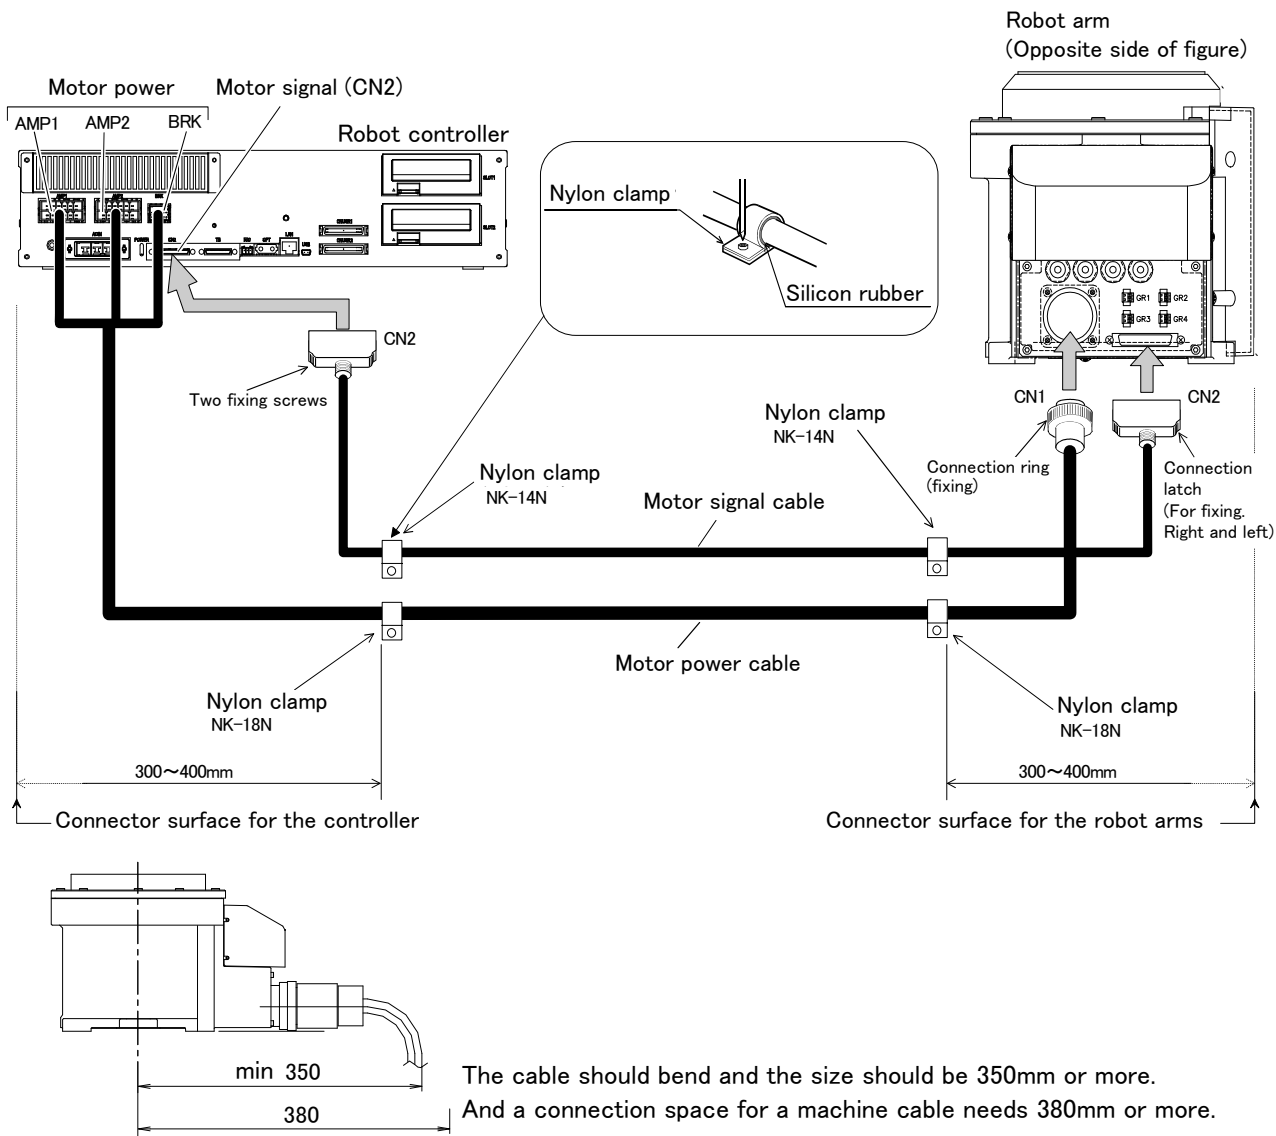

Fig.2-15 : Fixing the flexible cable (CR751)
- (1) Connect the connector to the robot arm.
- (2) Wind the silicon rubber around the cable at a position 300 to 400 mm from the side of robot arm and controller as shown in Fig. 2-13 (CR750: standard specification), Fig. 2-14 (CR750: CE Marking/KC mark specification) or Fig. 2-15 (CR751), and fix with the nylon clamp to protect the cable from external stress.